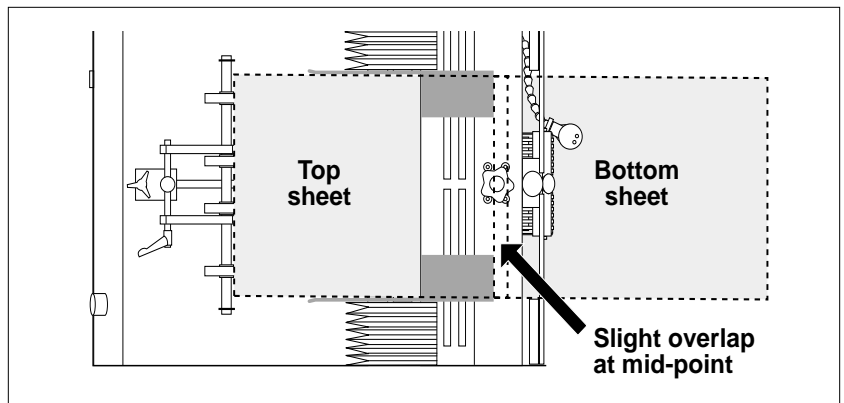

Figure 3-16 . Optimum Alignment of Photo Sensor
5. After running several sheets through, turn the feeder power Off by pushing the circle (O) at the **Power On/Off** rocker switch. Adjust the photo sensor as needed to achieve the correct stopping point. *An optimum setting is to aim the sensor slightly to the rear of the leading edge (Figure 3-16).* This compensates for the slight over-travel of the motor after it turns Off, thus allowing the leading edge to stop in-line with the front hopper plate.